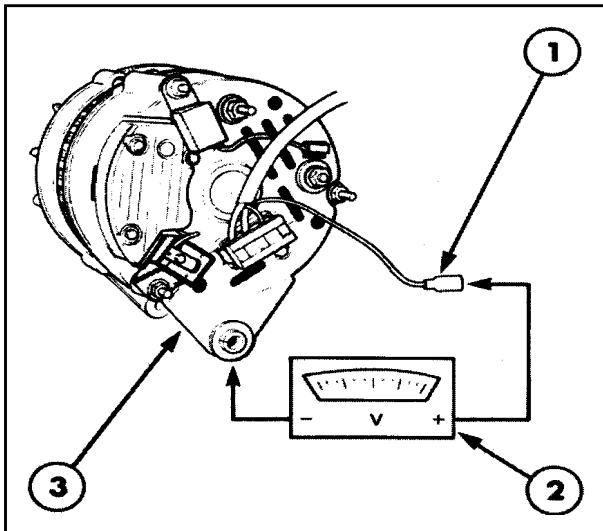

Figure 10
1. Reference to Figure 10. Remove the sensor lead from the alternator "S" terminal.